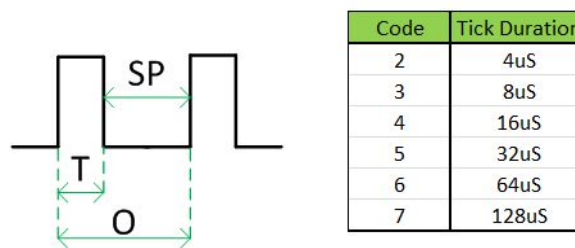

Figure 12 - Programmable Tick periods
The tick duration is given by Active phase duration (T) = Operating period (O) – Standby phase (SP). The period can be set according to the different values shown in figure 12.